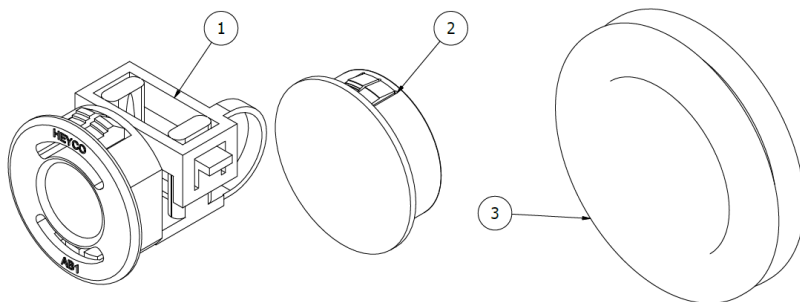

Figure 8: Cable and tube interfaces
- Move the cable strain relief fittings to the side you wish to make the entries / exits. Cover all other holes in the enclosure with the supplied blanking grommets. (Figure 8).
- Wire the cable via the appliance case grommets and into the control box housing (Figures 8, 12.1 and 12.2).